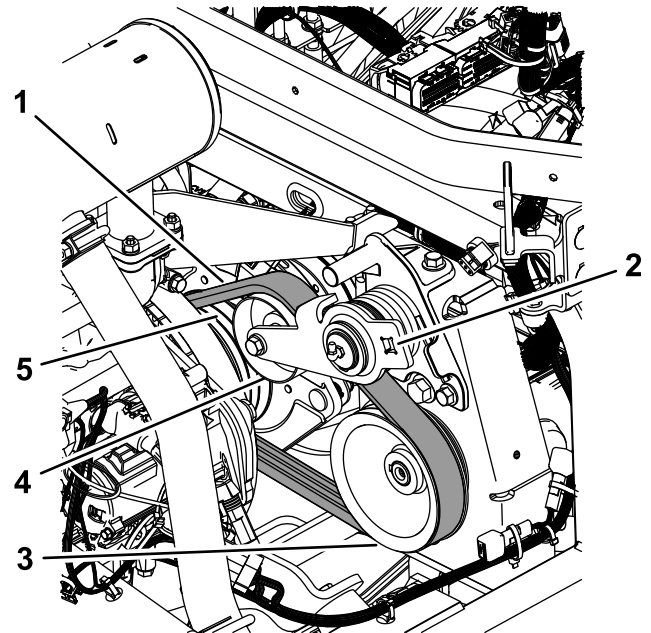

Figure 78
3. Route the belt on the engine pulley, idler pulley, and pump pulley (Figure 78).